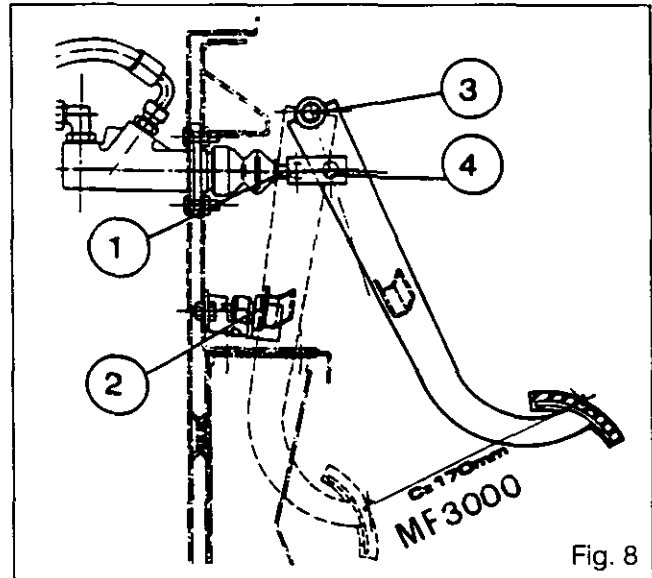

Fig. 8
1. Coat the pins (3) and (4) with molybdenum disulphide.
2. Apply Loctite 542 on thread of the rod (1).
- 170 mm (3000 tractors) (Fig. 8)